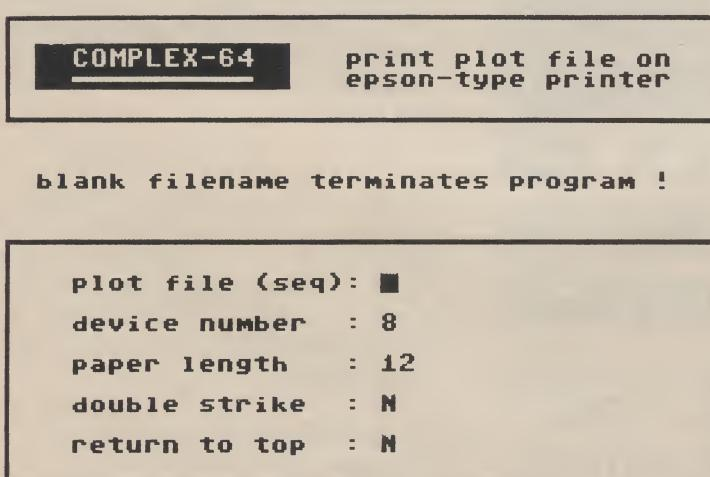

FIGURE 5
Figure 5 shows a screen dump of the menu screen, on the monitor the relevant entries are immediately apparent by 'highlighting'. The line beneath the header ("blank file name...") is used as a status/message line. A description follows;
- 5) Finally, (not shown in figure 5), in the status line you are asked if the plot should be sent to the plotter (key 'P') or to disk ('D'). Normally, you would enter 'P'. However, there are a number of 'LUXURY' plot instructions (ELLIPSE, SYMBOL) that require quite some calculation time; this can amount to several seconds per instruction for each line; if you plan to plot the same file more than once, it is advantageous to divert the byte stream to disk. These are packed, using a simple algorithm, and are stored in a sequential file named SSF.01 (or a higher number for the next file in the same run). Using a separate program (DUPLEX64) you can read the SSF files and send the data to the printer, but this time without having to wait for lengthy calculations in between the lines! Do not get mixed up between normal plot files and the SSF files, they are not mutually interchangeable. Also, when writing the SSF files you can choose between two device numbers. Note that if the SSF file is sent to the same drive as the plotfile is read from, they are of necessity on the same disk.